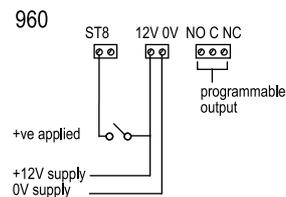

Figure 4. 960 Connection
3. Connect any external trigger device required to ST 8 (Spare) - see Figure 4.